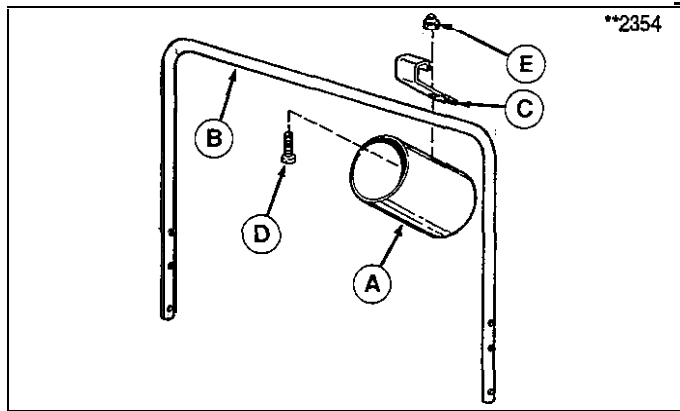

Figure 11
- Install the sleeve clamp (C, figure 11) to the connecting sleeve (A) with 1/4-20 x 1/2 slotted truss head screw (D) and nyloc nut (E). Install the connecting sleeve inside the collar of the cover and position sleeve clamp (C) over the support tube (B).